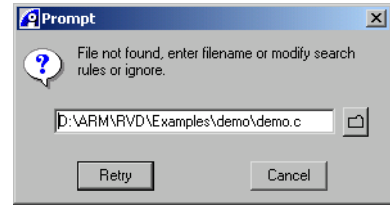

Figure 3-4 Source search prompt
4. RealView Debugger cannot locate a source file and so displays the source search prompt, shown in Figure 3-4 on page 3-20.
Use the source search prompt, shown in Figure 3-4, to autoconfigure the search rules:
When you use the directory button to locate the source file, using the prompt shown in Figure 3-4 on page 3-20, RealView Debugger creates a mapping between the original file and the new location. This mapping is then applied to subsequent file searches so that the debugger can locate files automatically that have the same mapping.